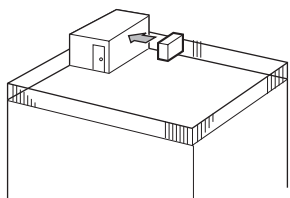

Fig. 2-3
- ① Face the air outlet towards the nearest available wall about 35 m away from the wall. (Fig. 2-3)